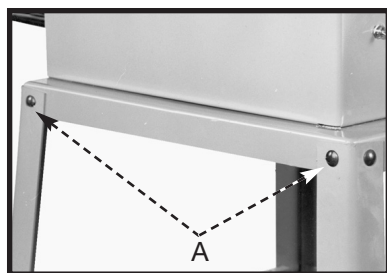

Fig. 4
3. Remove the two top left carriage bolts (A) Fig. 4, washers, and nuts from saw stand and discard. Enlarge the holes using a 7/16" drill bit.